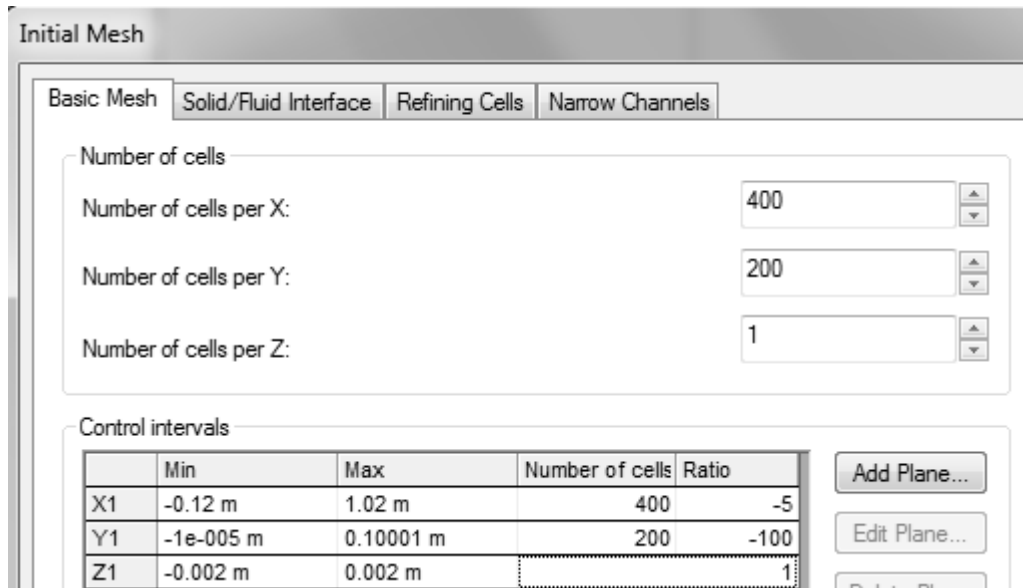

Figure 2.28b) Increasing the number of cells and the distribution of cells
2.7 Change the distribution of cells using different values of the ratios in the X and Y directions, see figure 2.28b), for the turbulent boundary layer and plot graphs of the boundary layer thickness, displacement thickness, momentum thickness and local friction coefficient versus Reynolds number for different combinations of ratios. Compare with theoretical results.